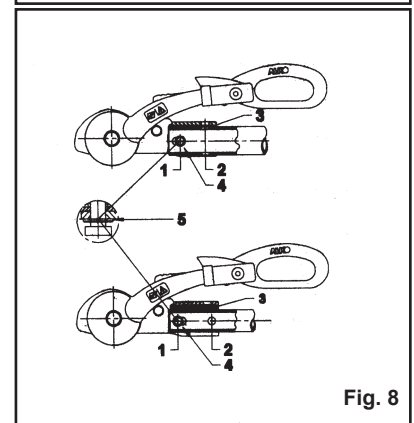

Fig. 8
6) Place AKS 3004 (plus spacers if required) onto draw shaft, ensuring fixing holes 1 & 2 line up (Fig. 8).
6a) For two horizontal bolt fixing insert front Allen or Torx Bolt (M12x75 -Fig. 8/Item 1) through washer (Item 5), overrun shaft and internal spacer (where used).
6b) For one horizontal and one vertical bolt fixing (for non AL-KO overruns), insert front Allen or Torx Bolt (M12x75 - Fig. 8/Item 1) through washer (Item 5), overrun shaft and internal spacer (where used). Finally fit hexagonal self-locking nut and torque to 100 Nm for 10,9 class bolts or 86 Nm for 8,8 class bolts.